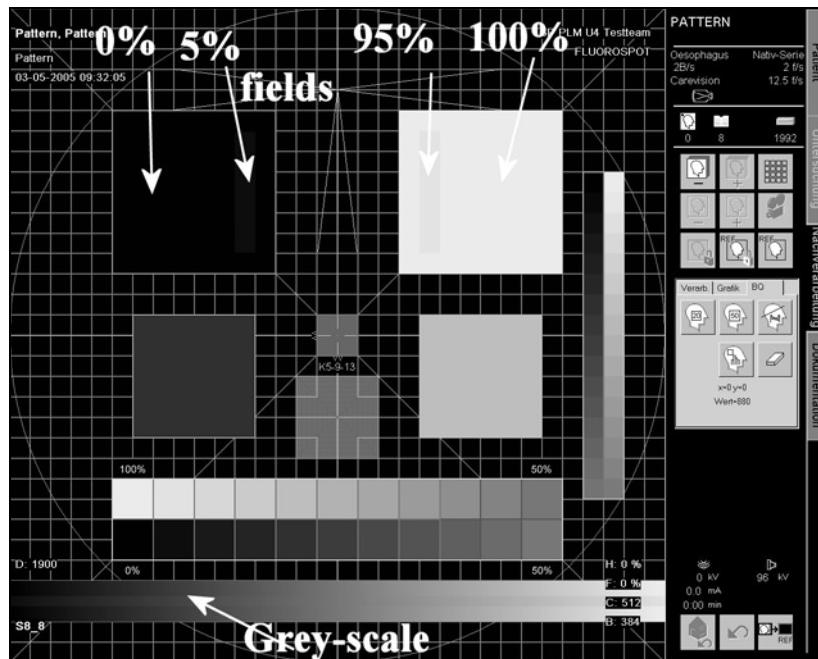

Fig. 3
- Select the "S8_8" in the "pattern" folder (Fig. 3).
- Document whether the 5% and 95% fields (Fig. 3) are visible (Tab. 1).
- The grey-scale (Fig. 3) has to be displayed without disturbances (Tab. 1).